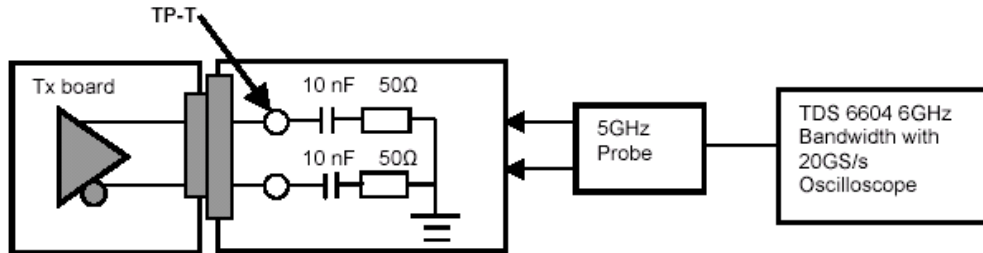

Figure 5. Transmit Test Point at TP-T
- The test point is the backplane side of the mated HM-ZD connector as shown in Figure 5.